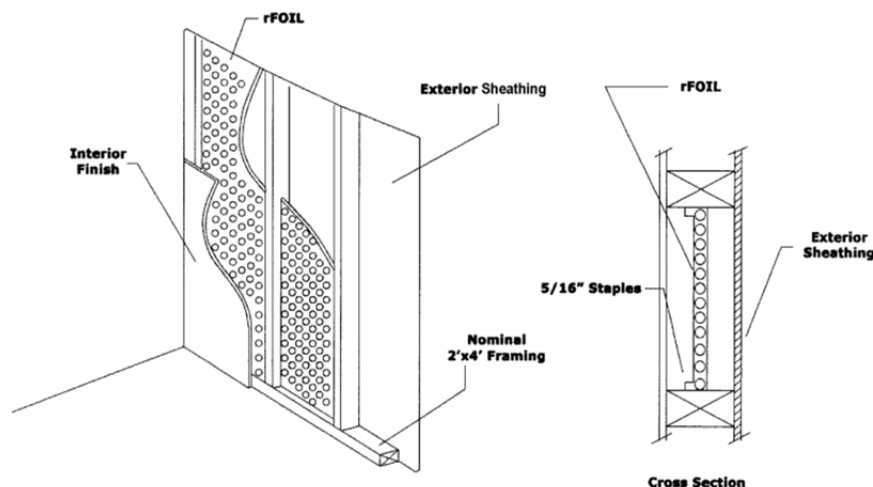

FIGURE 1—WALL CAVITY APPLICATION
4.1.2.1 Wall Cavity Application: rFOIL™ insulation is placed on the inside of the stud cavity and stapled at the midpoint of the 3¹/₂-inch (89 mm) side of 2-by-4 wood studs spaced at 16 inches (406 mm) on center. The insulation forms two 1⁵/₈-inch-deep (41.3 mm) air spaces within the cavity. The exterior surface is covered with ¹/₂-inch-thick (12.7 mm) plywood, complying with and attached in accordance with the applicable code. The interior surface is covered with minimum ¹/₂-inch-thick (12.7 mm) gypsum wallboard complying with ASTM C36, attached in accordance with the applicable code. Inside surface-to-surface thermal resistance of the assembly is noted in Table 1 of this report. Thermal resistance of the insulated cavity described in this section is noted in Table 2 of this report. See Figure 1 of this report for an illustration of the assembly.